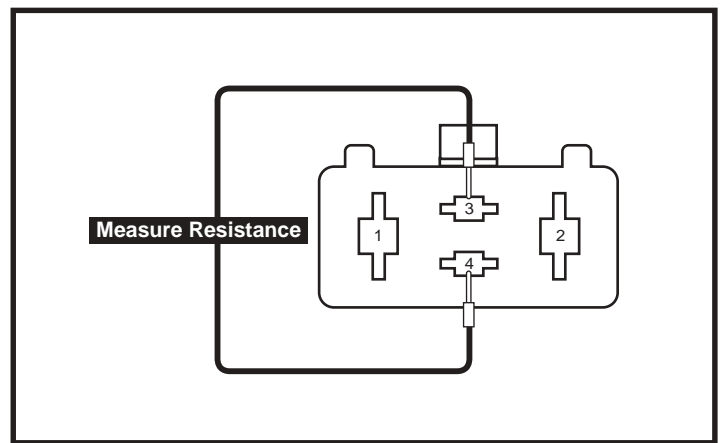

Figure 22. Connector 9a
4. Measure resistance from pin 3 to pin 4 on connector 9a. See **figure 22**.